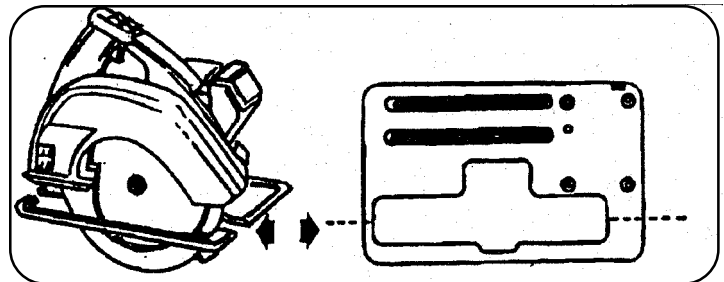

Figure 2. Cut the foot assembly of the 10-1/4-inch circular saw as shown. File or grind the cut edges of the foot assembly to remove sharp edges.
1. Heavy duty 10-1/4-inch builders circular saw (requires minor modification, as shown in Figure 2).